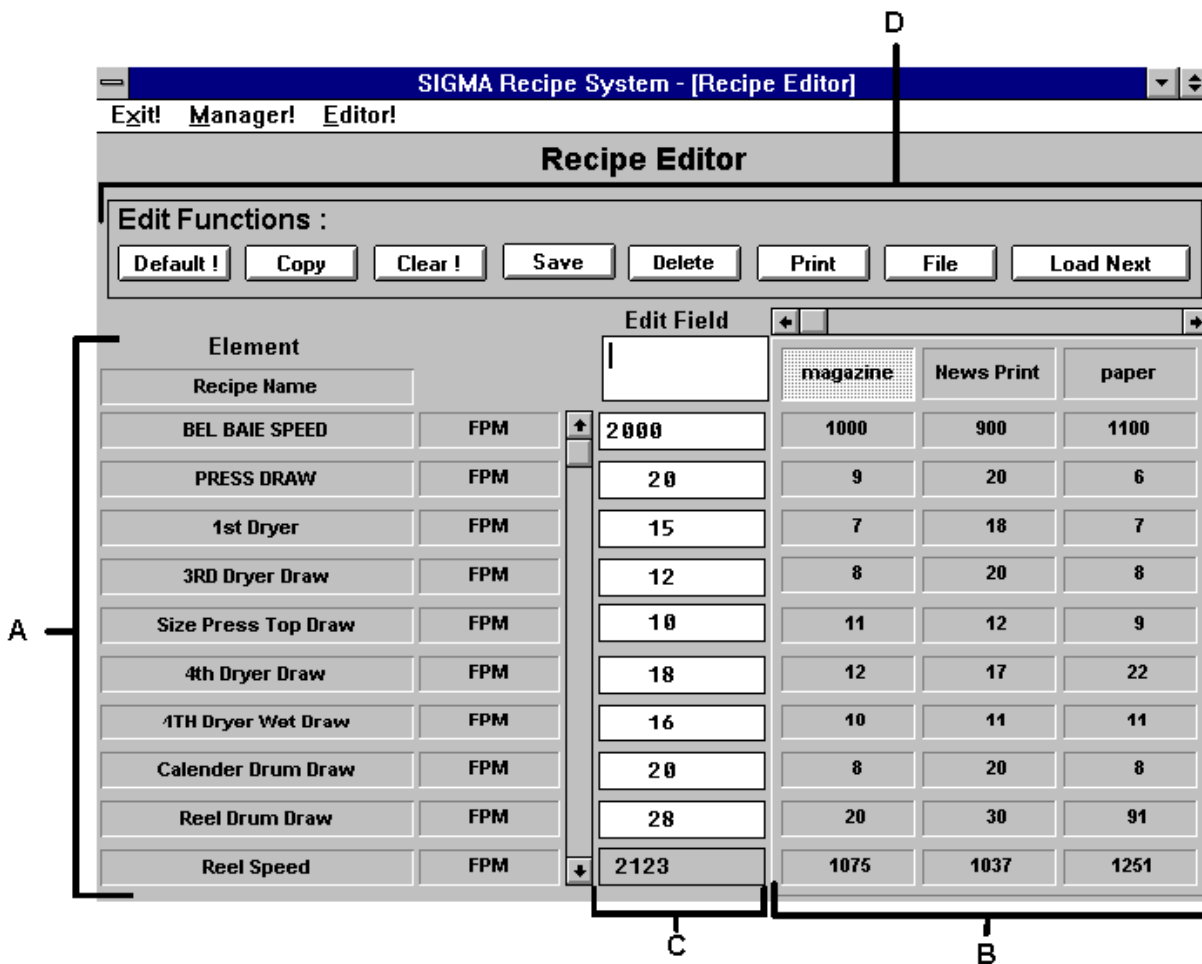
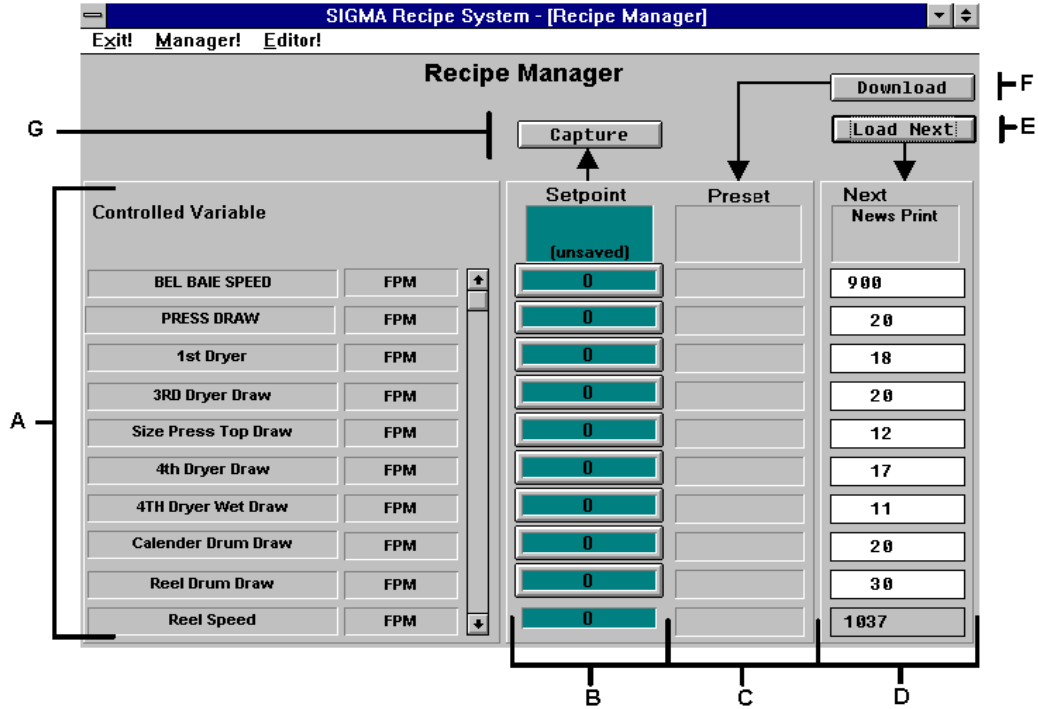

Figure 7-1 Recipe Editor Screen
Figure 7-13 Recipe Manager
"Recipe Editor" Screen (see Figure 7-1)	Lets the user: <ul style="list-style-type: none"> <li>• create, modify, store, delete and print recipes.</li> <li>• retrieve stored recipes</li> <li>• save recipes to disk</li> <li>• load recipes from disk</li> </ul>
"Download" Push-button (see Figure 7-13)	Downloads the recipe in the Next column to the drive system.
"Load Next" Push-buttons (see Figure 7-1 and Figure 7-13)	Lets the user prepare the next recipe to be run.
Up to ten recipe elements and their units (see call-out A in Figure 7-1) can be displayed at one time. Use the vertical scroll bar to browse through the recipes that have more than ten recipe elements.
Up to three stored recipes (see call-out B in Figure 7-1) can be displayed at one time. Use the horizontal scroll bar to browse when there are more than three stored recipes
The Edit Field column (see call-out C in Figure 7-1) is used to edit an existing or enter a new recipe. Any cell can be highlighted by selecting it with the mouse and clicking. When the "Recipe Name" cell is highlighted, the pop-up keyboard is displayed for data entry.(see Figure 7-2 ).
<p style="text-align: center;">Copy</p>	<p>Copies a selected recipe into the Edit Field column for modification or as a starting point for new recipes.</p> <p>To copy a recipe:</p> <ol style="list-style-type: none"> <li>Click Copy Push-button</li> </ol> <p>The Copy Recipe box (see Figure 7-6) is displayed.</p>  <p>Figure 7-6 Copy Recipe Box</p> <ol style="list-style-type: none"> <li>Click the [↓] Push-button.</li> <li>When the recipe menu opens, click the recipe to be copied.</li> <li>Click the OK button</li> </ol> <p>The recipe is displayed in the Edit Field column.</p> <p>Note: A recipe may also be copied by "double-clicking" on the recipe name of a visible recipe column (see call-out B in Figure 7-1).</p>
The recipe manager screen (see Figure 7-13) is the on-line component of the SIGMA NE Recipe System. From this screen, the user can:
The "**Controlled Variable**" column (see call-out A in Figure 7-13) is a list of the recipe elements and units for the recipe item in each row. Note that "controlled variables" is an application-specific title for the recipe elements. Up to ten recipe elements can be viewed at a time. Other elements can be viewed by using the scroll bar to move up and down the element list. As the scroll bar scrolls the "Controlled Variable" column, all other columns scroll synchronously.
The "**Setpoint**" column (see call-out B in Figure 7-13) contains the current value of each recipe element. If no modifications have been made since the recipe was downloaded to the drive system, the "**Setpoint**" column is identical to the fourth column labeled "**Preset**" (see call-out C in Figure 7-13). If, however, any of the references are changed by the user or by the drive system, the affected elements in the "**Setpoint**" column are highlighted in Cyan (light blue).
The "Load Next" push-button (see call-out E in Figure 7-13 ) lets the user prepare the next recipe to be run. To prepare the next recipe to run:
3. Click the **OK** button and the selected recipe is displayed in the "Next" column (see call-out D in Figure 7-13).
The **Download** push-button (see call-out F in Figure 7-13) downloads the recipe in the **Next** column to the drive system.
The column, titled **"Preset"** (see call-out C in Figure 7-13), contains the recipe name and setpoint (reference) values of the recipe elements which were last downloaded to the drive system. Also if the **"Next"** column had been modified before downloading, a **(modified)** is displayed in the **Recipe Name** box.
The column, titled **"Setpoint"** (see call-out B in Figure 7-13) also contains these setpoint values until they are changed either by the user or by the drive system. The Recipe Name box displays **(unsaved)** until this recipe is captured.
The "**Capture**" push-button (see call-out G in Figure 7-13 ) allows the values in the "**Setpoint**" column to be stored as a recipe. To capture setpoint values: